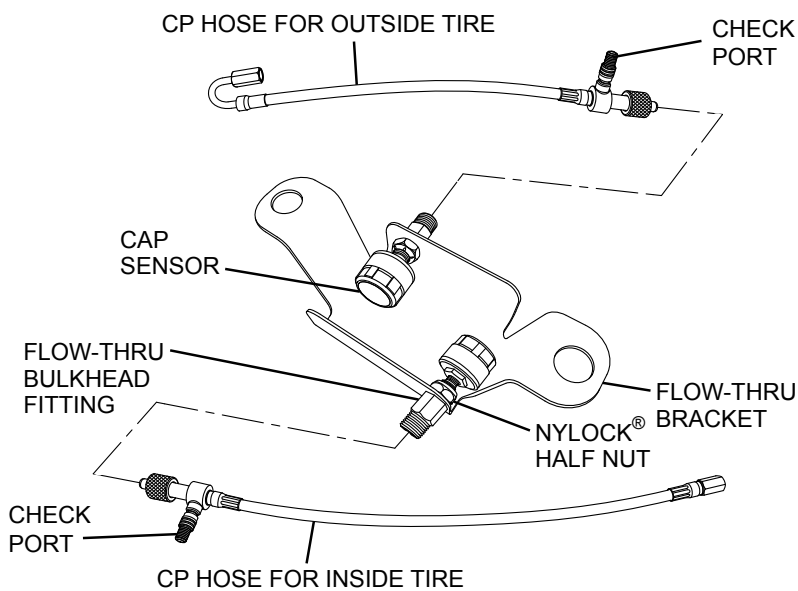

Figure 25: TireView® TPMS Flow-thru Kit Assembly
1. If not already installed, install the flow-thru bulkhead fitting(s) onto the side(s) of the flow-thru bracket. Make sure the valve stem threaded end of the flow-thru bulkhead fittings are on the interior of the flow-thru bracket. See *Figure 25*.